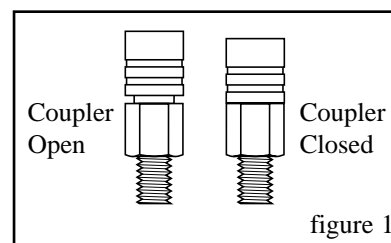

figure 1
Caution: Female couplers must be in the open position before connecting with the male studs. See figure 1. Coupler damage will result from improper set-up.
6. Connect shop air lines to the **FASTIE** couplers. **Couplers must be in the open position (see figure 1) before connection to male studs, otherwise coupler damage will occur.**
3. Insert the SpeedBar and coupler through the platen and into the press ejector plate. The coupler must be in the open position. See figure 1.
7. Connect shop air lines to the **FASTIE** couplers. **Couplers must be in the open position (see figure 1) before connection to male studs, otherwise coupler damage will occur.**
1. Ensure that the *FAS TIE* couplers are in the open position. See figure 1.